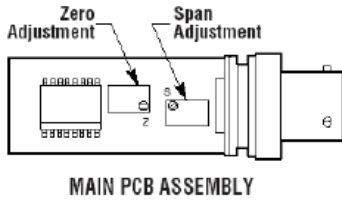

Figure 3.1
- Using a jewelers screwdriver or suitable instrument, adjust the “Z” pot (See Figure 3.1) until you have zero output.
**i IMPORTANT:** Do not make changes to the Span adjustment (the “S” pot to the right, see Figure 3.1) as part of the zero trimming. The Span should only be changed as part of the recalibration of a transducer with a known pressure source.
- Apply full scale pressure to the pressure port and adjust the Span (“S”) pot (on the right of Figure 3.1) until the full scale signal is reached.